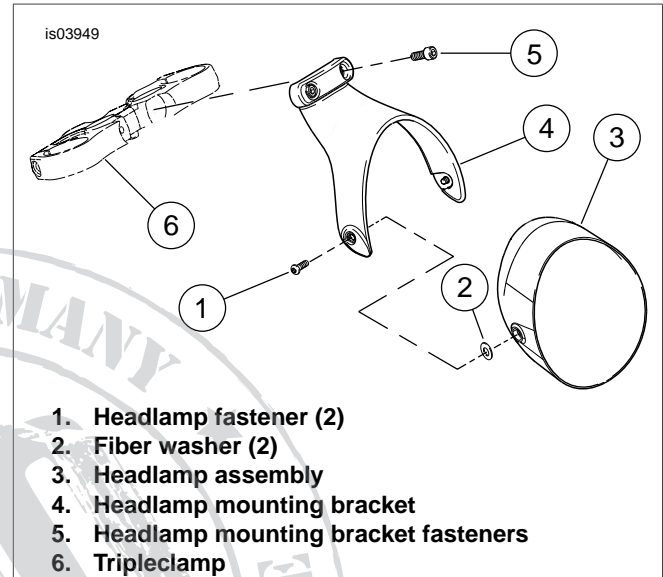
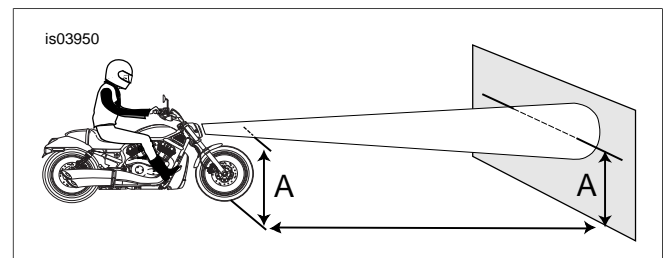

Figure 1. Headlamp Bracket Components
Figure 2. Motorcycle 7.6 m (25 ft) from Wall
3. See Figure 1. Remove fasteners (1) and fiber washers (2) from headlamp mounting bracket (4). Move headlamp assembly (3) down and away from headlamp bracket assembly. Retain fasteners and fiber washers for future use.
4. Remove fasteners (5) from tripleclamp (6). Remove headlamp mounting bracket. Retain fasteners for future use.
- b. See Figure 2. On level pavement in low light, position the motorcycle 90° to a wall. Park motorcycle 7.6 m (25 ft) from point directly below front axle to wall.
- c. Measure height from center of headlamp to floor (A) and draw a horizontal line on wall at same height (A).
- g. See Figure 1. Tighten the mounting bracket fasteners (2) to 4.5 - 7.5 Nm (40 - 66 in-lbs).